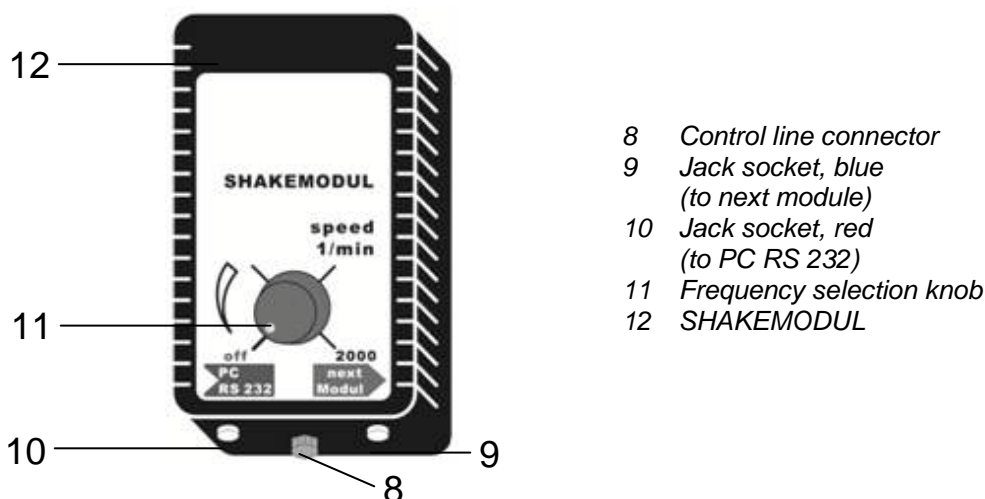

Figure 5: SHAKEMODUL control unit
- ◆ Turn the frequency selection knob (11) on the SHAKEMODUL (12) to OFF (Figure 1 and Figure 5).
- ◆ Plug the control line (7) of the TELESHAKE (4) into the control line connector (8) of the SHAKEMODUL (12). Tighten the knurled screw.
- ◆ Plug the mains cable of the SHAKEMODUL (12) into a socket outlet.
- ◆ Insert the control unit plug of the RS232 cable into the red jack socket (10) of the control unit (Figure 5).
- ◆ Mount the microtitre plate on the TELESHAKE (4) (see chapter 5).
- ◆ Turn the frequency selection knob (11) on the SHAKEMODUL (12) to OFF (Figure 5).
- ◆ Insert the computer plug of the RS232 connecting cable (15) into the COM socket of the PC.
- ◆ Insert the control unit plug of the RS232 connecting cable (15) into the red jack socket (10) of the first SHAKEMODUL control unit (12) (Figure 5 and Figure 6).